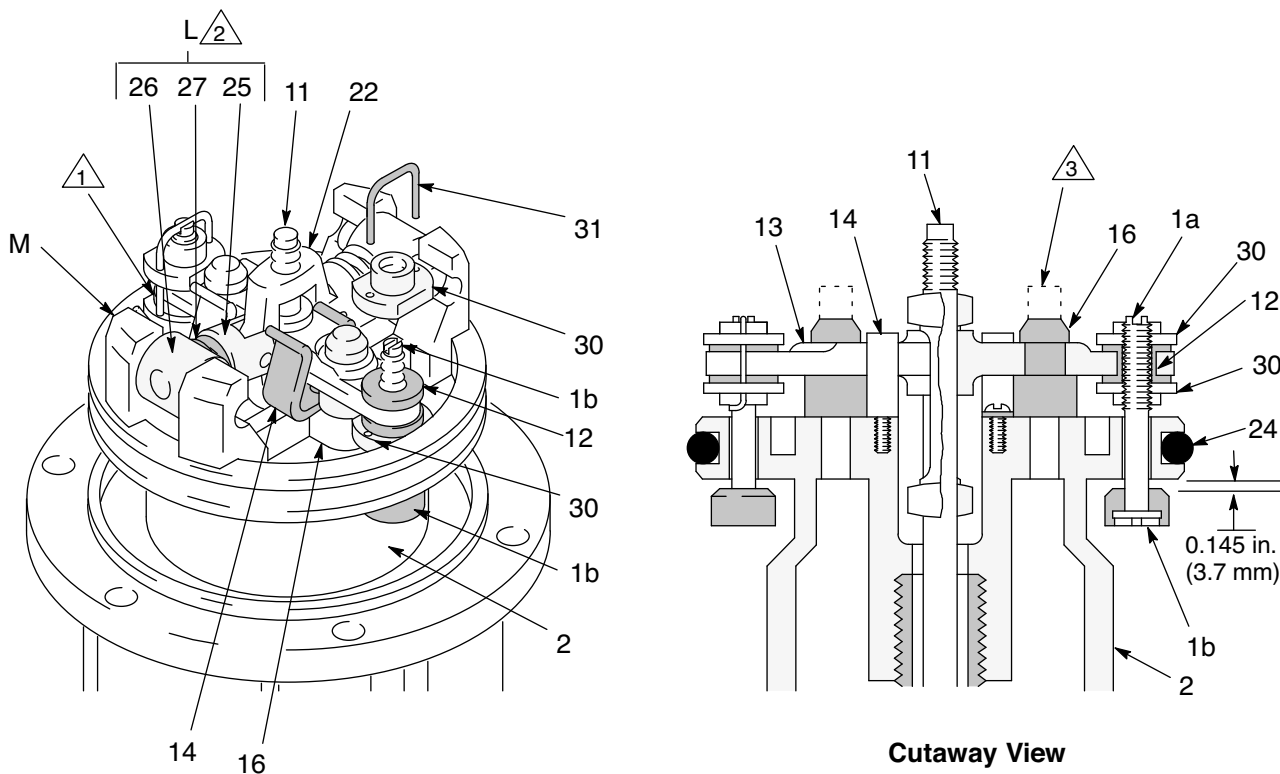

FIG. 5
9. Use a screw driver to push down on the trip rod yoke (22), and snap the toggles down. Remove the lockwires (31) from the adjusting nut (30) of the transfer valves. Screw the top nuts off. Screw the stems (1a) out of the grommets (12) and bottom nuts. Take the valve poppets (1b) off the stems and squeeze them firmly to check for cracks. (FIG. 5)
10. Grip the toggle rockers (26) with a pliers. Compress the springs (27), and swing the toggle assembly (L) up and away from the piston lugs (M), and remove the parts. Check to see that the valve actuator (13) is supported by the spring clips (14), but slides easily into them. (FIG. 5)
11. Remove the trip rod yoke (22), actuator (13), and trip rod (11). Check the exhaust valve poppets (16) for cracks.
- NOTE:** To remove cracked exhaust valve poppets (16), stretch them out, and cut them with a sharp knife.
12. Remove one of the air motor plates (18 or 20). Pull the piston (2) up out of the base (5). Remove the throat packing nut (38) and throat seal (6).
6. Pull the exhaust valve poppets (16) into the valve actuator (13), and clip off the top part shown with dotted lines in FIG. 5.
7. Install the transfer valve grommets (12), and reassemble the valve mechanism. Before installing the lockwires (31) in the adjusting nuts (30), use the special gauges, 171818, to adjust the transfer valve so there is 0.145 inches (3.7 mm) clearance between the poppets (1b) and the seat when it is open. Snap the toggles (25) to the up position. (FIG. 5)
8. Reassemble the air motor, and assemble to the displacement pump. Torque the extensions tube (64) to the base (5) at 45 to 55 ft-lbs (61 to 75 N.m). Before installing the air motor plate, tighten the throat packing nut (38) snugly; do not overtighten it.